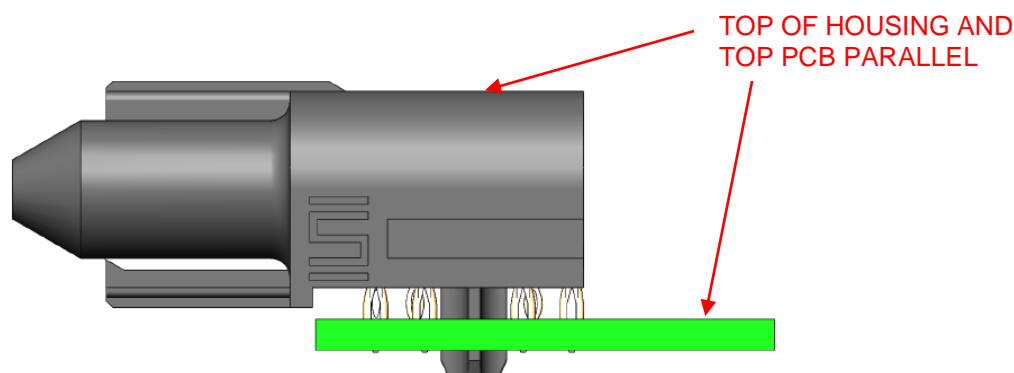

Figure 1: Connector Parallel to Top of PCB and EONs Aligned
- Insert press fit tails into holes on the PCB. The top surface of the housing should be parallel with the top surface of PCB after all the tips have been properly inserted. See figure 1.